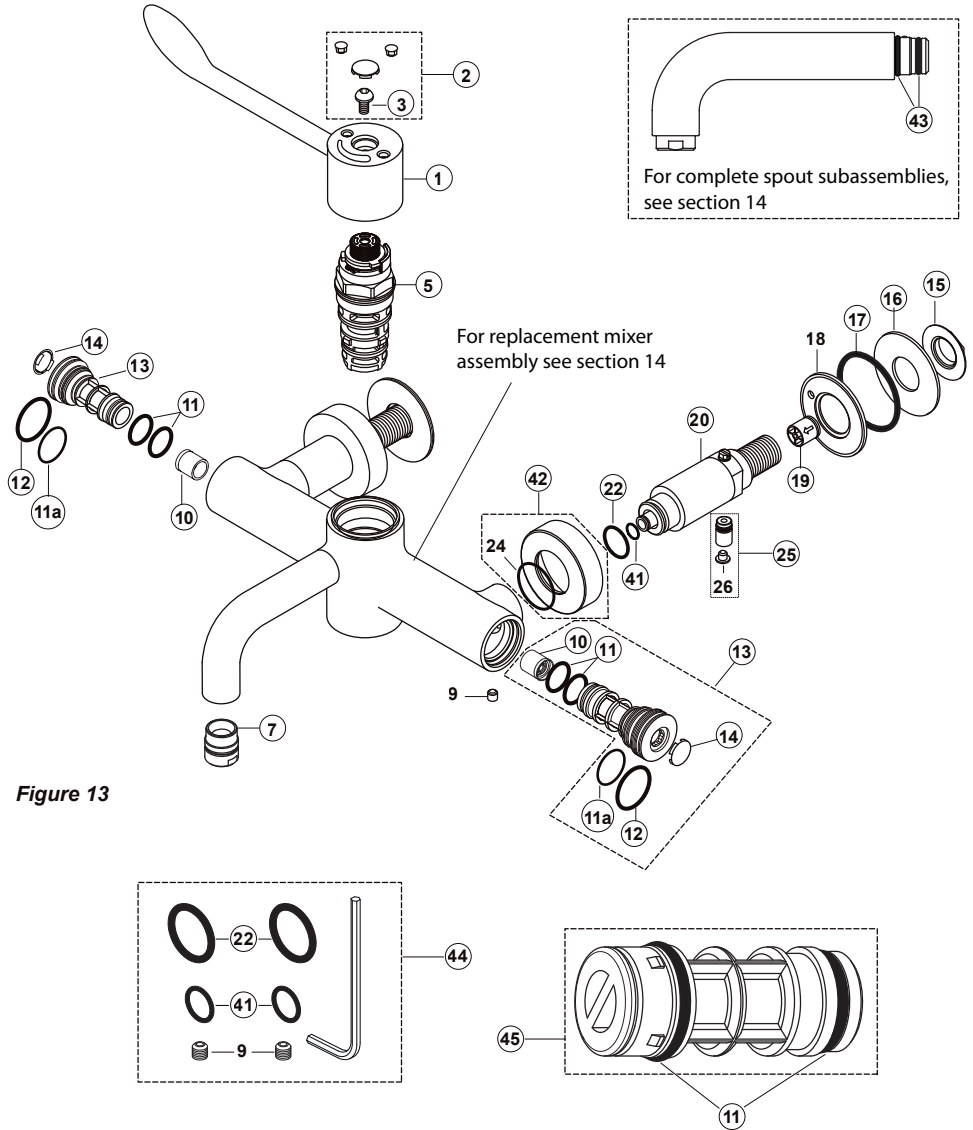

Figure 13
To prevent back siphonage of water to the supply pipes, check valves are fitted inside the inlet tails (19) – see figure 13. These check valves can be maintained/replaced, but **MUST NOT BE REMOVED**.
*To achieve a suitable flow rate where supply pressures are very low it may be necessary to remove the flow regulator (**item 10 figure 13**).